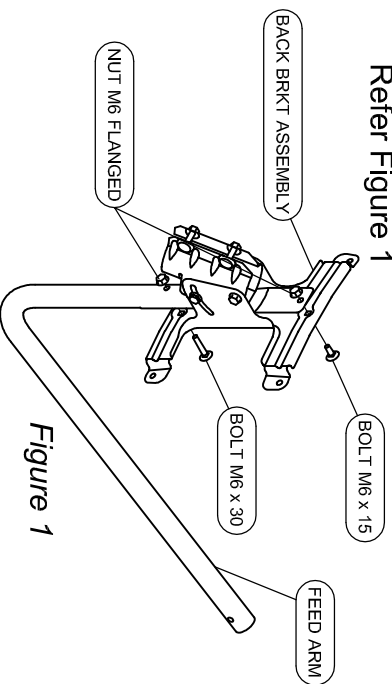

Figure 1
STEP 1 - Assemble the feed arm to the back bracket assembly using Square neck bolts 15mm & 30mm long plus 2 x M6 flange nuts. Refer Figure 1